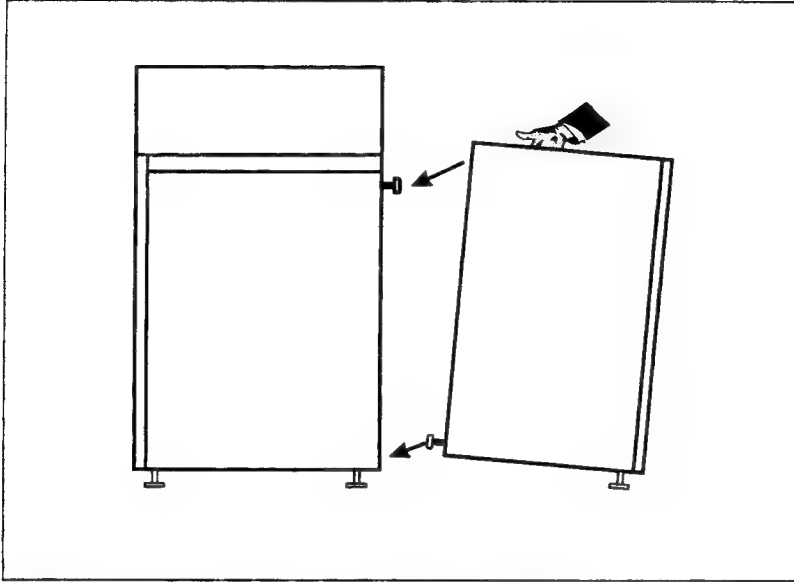

Figure 2-31. Attaching the Main Weldment Assembly
- c. Insert the screws into the key slots by holding the main weldment from its top brace with both hands first. Align the bottom screws to the holes in the back panel of the printer stand. Insert lower screws into the key slots. Then while holding the main weldment, repeat the operation with the top screws in the back of the printer. Lower the weldment into place. Ensure the weldment is well seated (Figure 2-31). Do not tighten the screws yet, in order to allow the power and ground cables be routed through the enclosure.